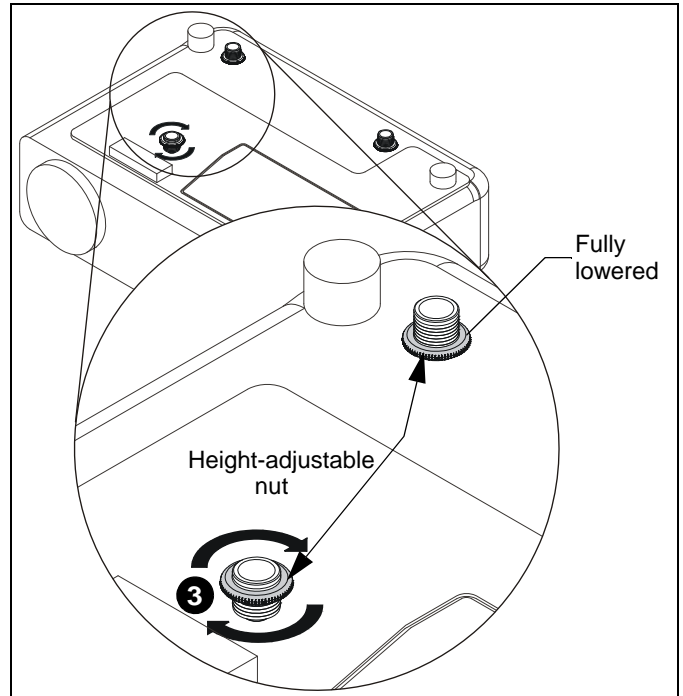

Figure 2
3. Adjust height-adjustable nuts (on screw adapters [AM]) to desired level. (See Figure 2)
**NOTE:** Height-adjustable nuts should be adjusted as low as possible while still allowing interface legs (Q) to clear elevated surfaces on the projector. (See Figure 2) Adjust height-adjustable nuts to the same level on all adapter screws to ensure a level mount.
**IMPORTANT ! :** The longer screws (AF through AI) and spacers (AK) may be used if there is interference between interface legs and any part of the projector, and if more height is required to clear elevated surfaces of the projector.